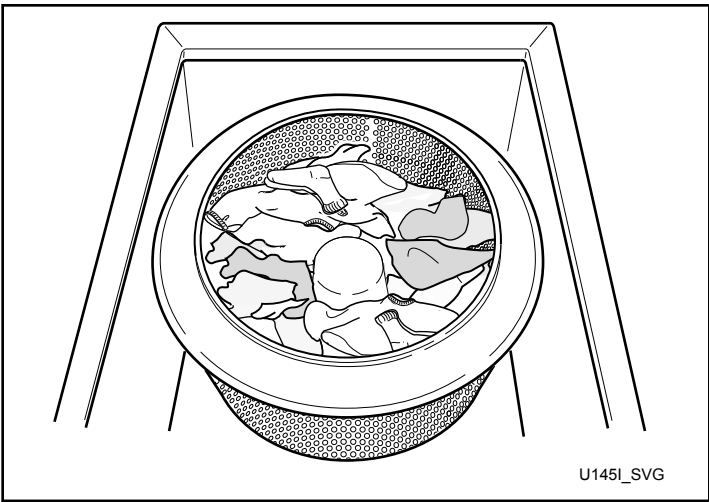

Figure 15
8. When cycle is finished, place washables in extract-rinse compartment. Distribute evenly around agitator. Refer to *Figure 15*.